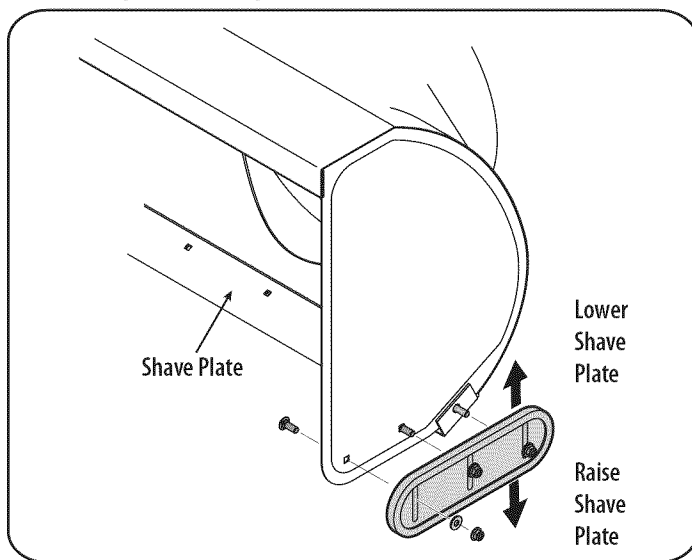

Figure 12
1. Adjust skid shoes by loosening the six (three on each side) hex nuts and carriage bolts securing the skid shoes to the auger housing. Refer to Figure 12.
2. While observing the distance between the shave plate and the ground, adjust the skid shoes up or down to achieve the desired shave plate height. See Figure 12.